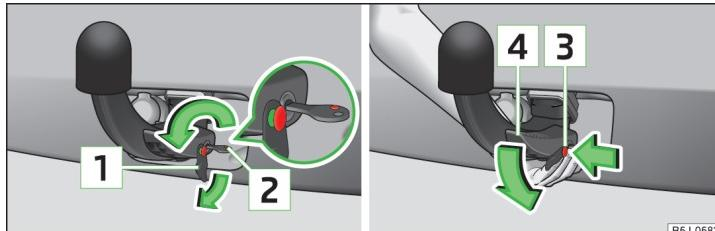

Fig. 122 Unlock the operating lever of the ball head/removing the ball head
- Remove the cap **[1]** » Fig. 122 from the lock on the tow bar in the direction of the arrow.
- Unlock the lock on the operating lever by turning the key 180° to the left so that the red marking **[2]** becomes visible.